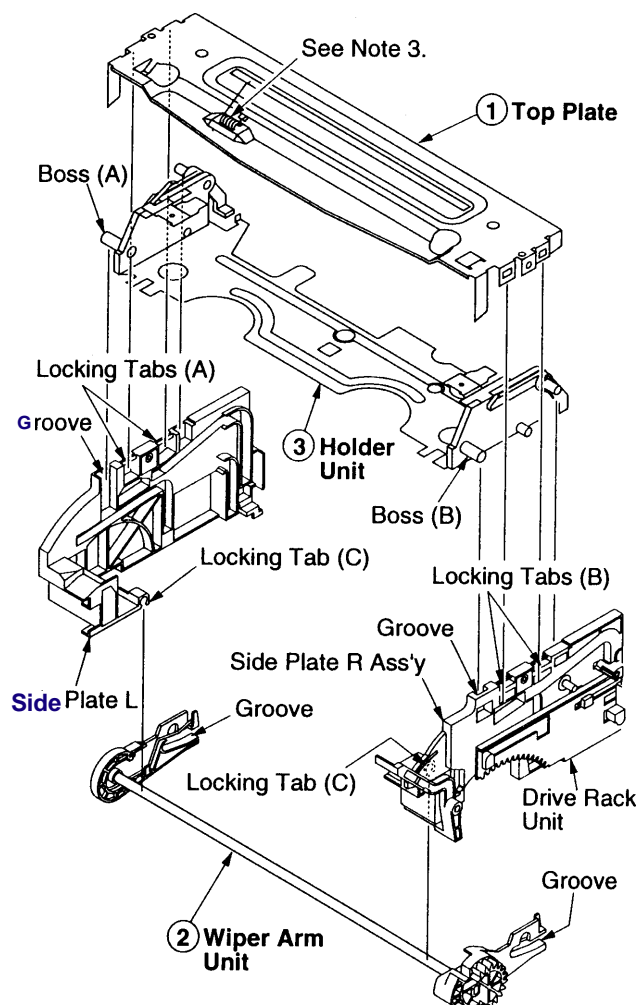

Fig. 26 - Top Plate/Wiper Arm Unit/Holder Unit Disassembly
### Top Plate/Wiper Arm Unit/Holder Unit Disassembly (Fig. 26, 27, 28)
1. Release two (2) locking tabs (A) on the top left side and two (2) locking tabs (B) on the top right side of the top plate (Fig. 26).
2. Release two (2) locking tabs (C) and then remove the holder unit.
When reinstalling the holder unit, turn the wiper arm unit so that the grooves on each end are aligned with the grooves on the side plate (L) and (R) (Fig. 26). Insert the holder unit boss (A) and (B) into the grooves. With the unit in the eject position, confirm that the protruding section of the wiper arm unit is aligned with the indentation on the drive rack unit (Fig. 28). As an **ESD PRECAUTION**, make sure that the spring is in contact with the top cover when reassembling the unit.